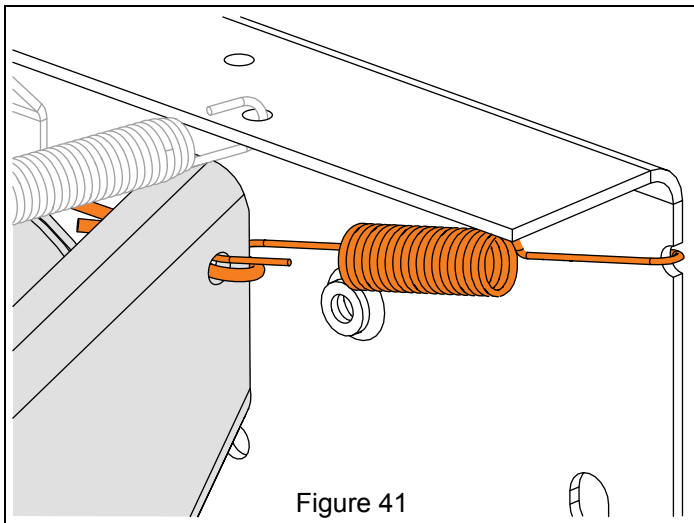

Figure 41
3. Reconnect traction drive clutch cable and return spring to swing gate. See Figure 41.